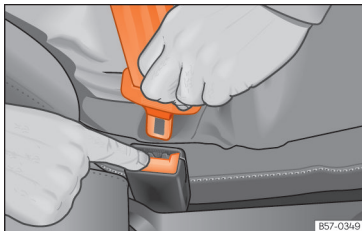

Fig. 11 Release the seat belt's buckle.
- Press the red button on the buckle »» » **Fig. 11**. The latch plate is released from the buckle.